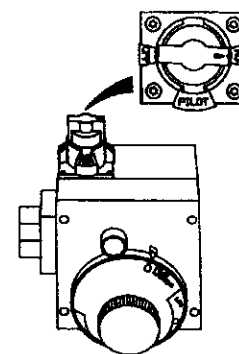

Figure 8
11. At arms length away, turn gas control knob counter-clockwise (↺) to the full "ON" position. **Warning do not use gas control knob to regulate gas flow.** (Figure 8, page 17)